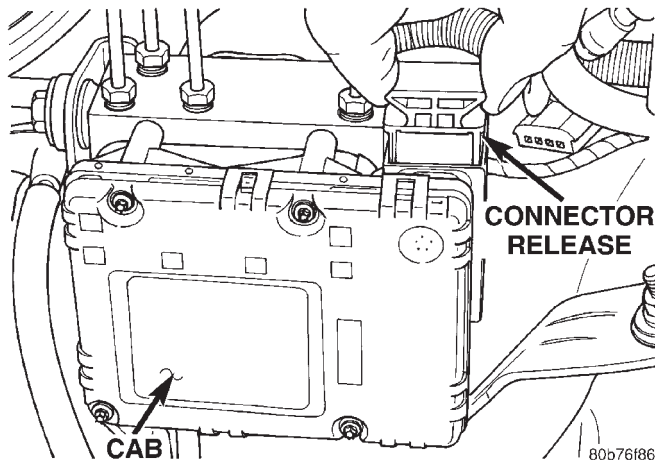
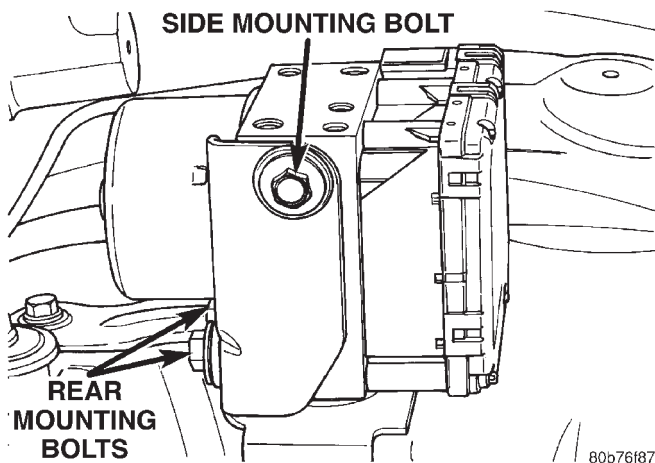

Fig. 6 CAB Connector Release
Fig. 7 HCU/CAB Assembly
- (1) Remove negative battery cable from the battery.
- (2) Remove air cleaner housing refer to Group 14 Fuel System.
- (3) Pull CAB harness connector release up and remove connector (Fig. 6).
- (4) Remove the brake lines from the HCU.
- (5) Remove HCU/CAB side mounting bolt and two rear mounting bolts (Fig. 7).
- (6) Remove HCU/CAB assembly from the vehicle.